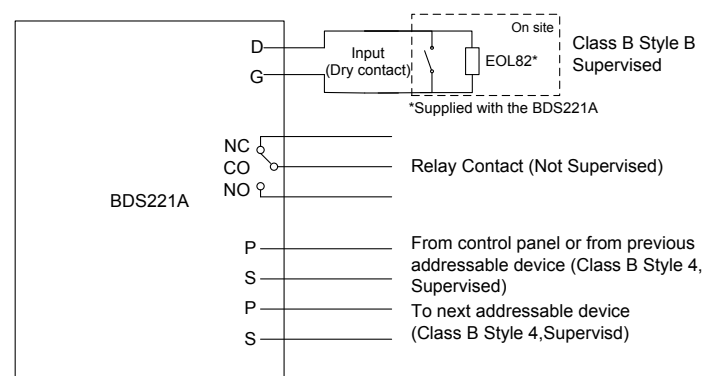

Figure 3 Wiring Diagram
4. In the case of voltage signal output, connect "CO-NO" or "CO-NC" terminals to the controlled equipment. Connect "G" and "D" with dry contacts of controlled equipment as feedback monitoring if it is necessary. See figure 3.